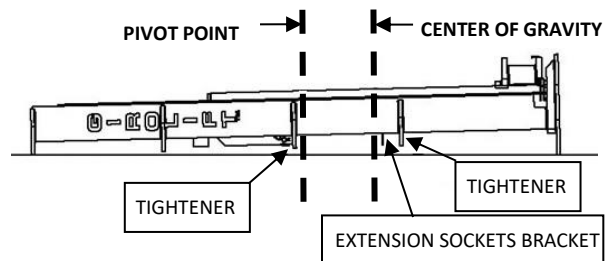

FIGURE 8 : POINT OF PIVOT AND CENTER OF GRAVITY OF A GROUND COLUMN
- 3.1** USING A SAFE AND ADEQUATE HANDLING EQUIPMENT AND A LIFTING STRAP, MOVE THE COLUMN AT THE NEAREST INSTALLATION SITE. PLACE THE LIFTING STRAP AT THE CENTER OF GRAVITY (EQUAL WEIGHT DISTRIBUTION) OF THE COLUMN. SEE **FIGURE 8.**
- 3.3** MOVE THE LIFTING STRAP TO PIVOT POINT UNDER THE TIGHTENED. SEE **FIGURE 8.**